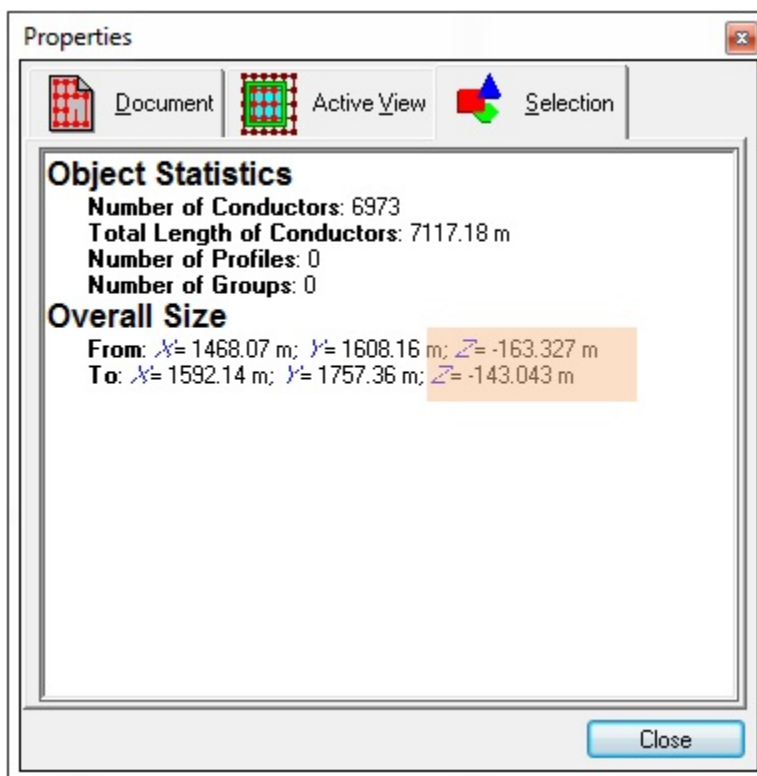
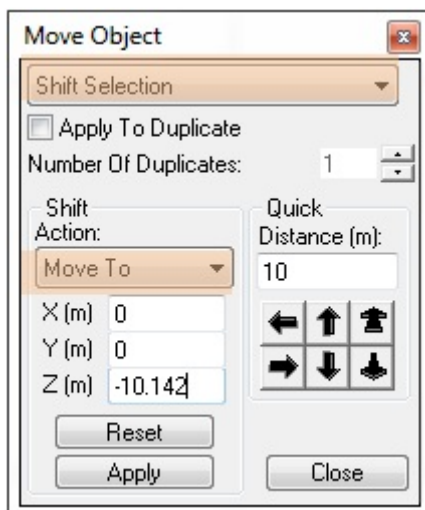

Figure 4: The Z value is calculated from the Z values of the overall size
Figure 5: The selected object are moved to the origin using the **Move Object** tool
4. Click **Apply**. Figure 4 and Figure 5 illustrate this step.